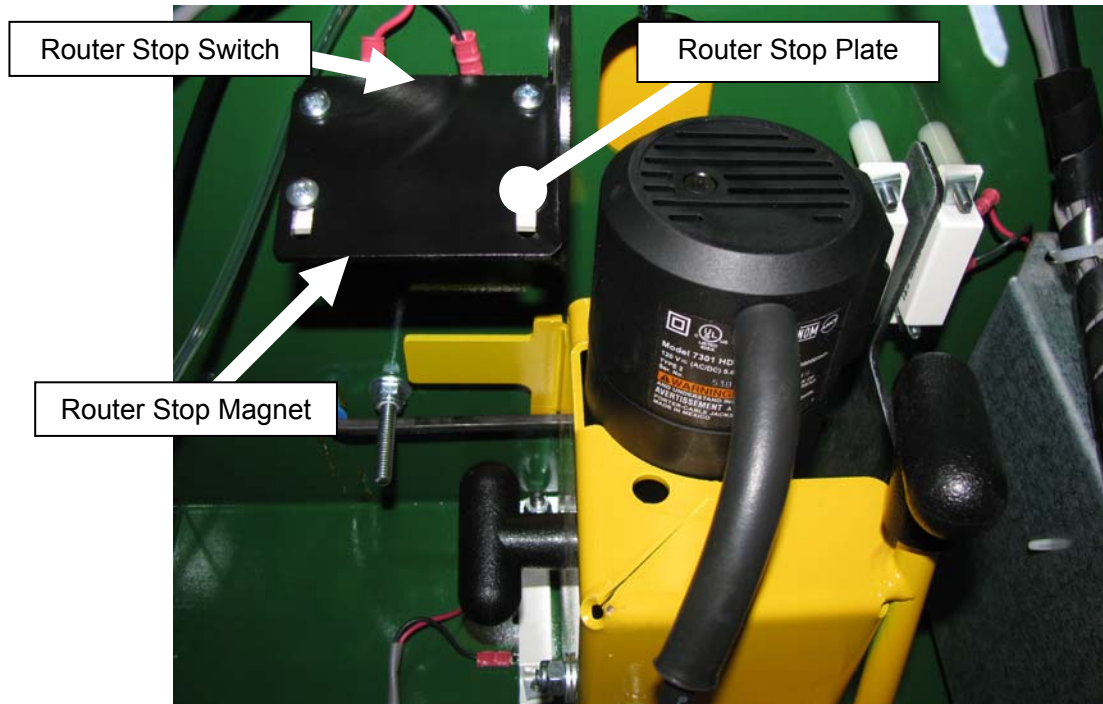

Fig 11
2. The Router Stop Switch and Magnet are attached to the back side of the Router Stop Plate, which is located just to the left of the Drill motor. **See Fig 11.**